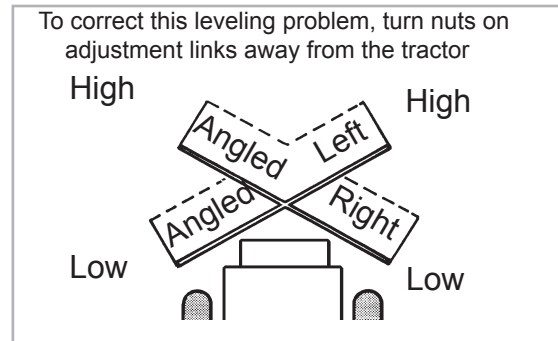

figure 1
- If measurements are not equal, level the mounting assembly with the topline. Follow instructions shown in figure 1